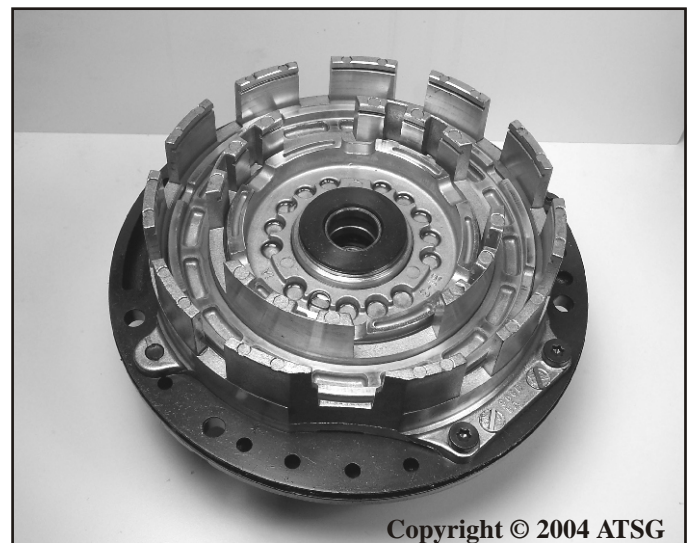

Figure 117
- 65. Lubricate the piston o-rings and install the pistons into the housing shown in Figure 117.